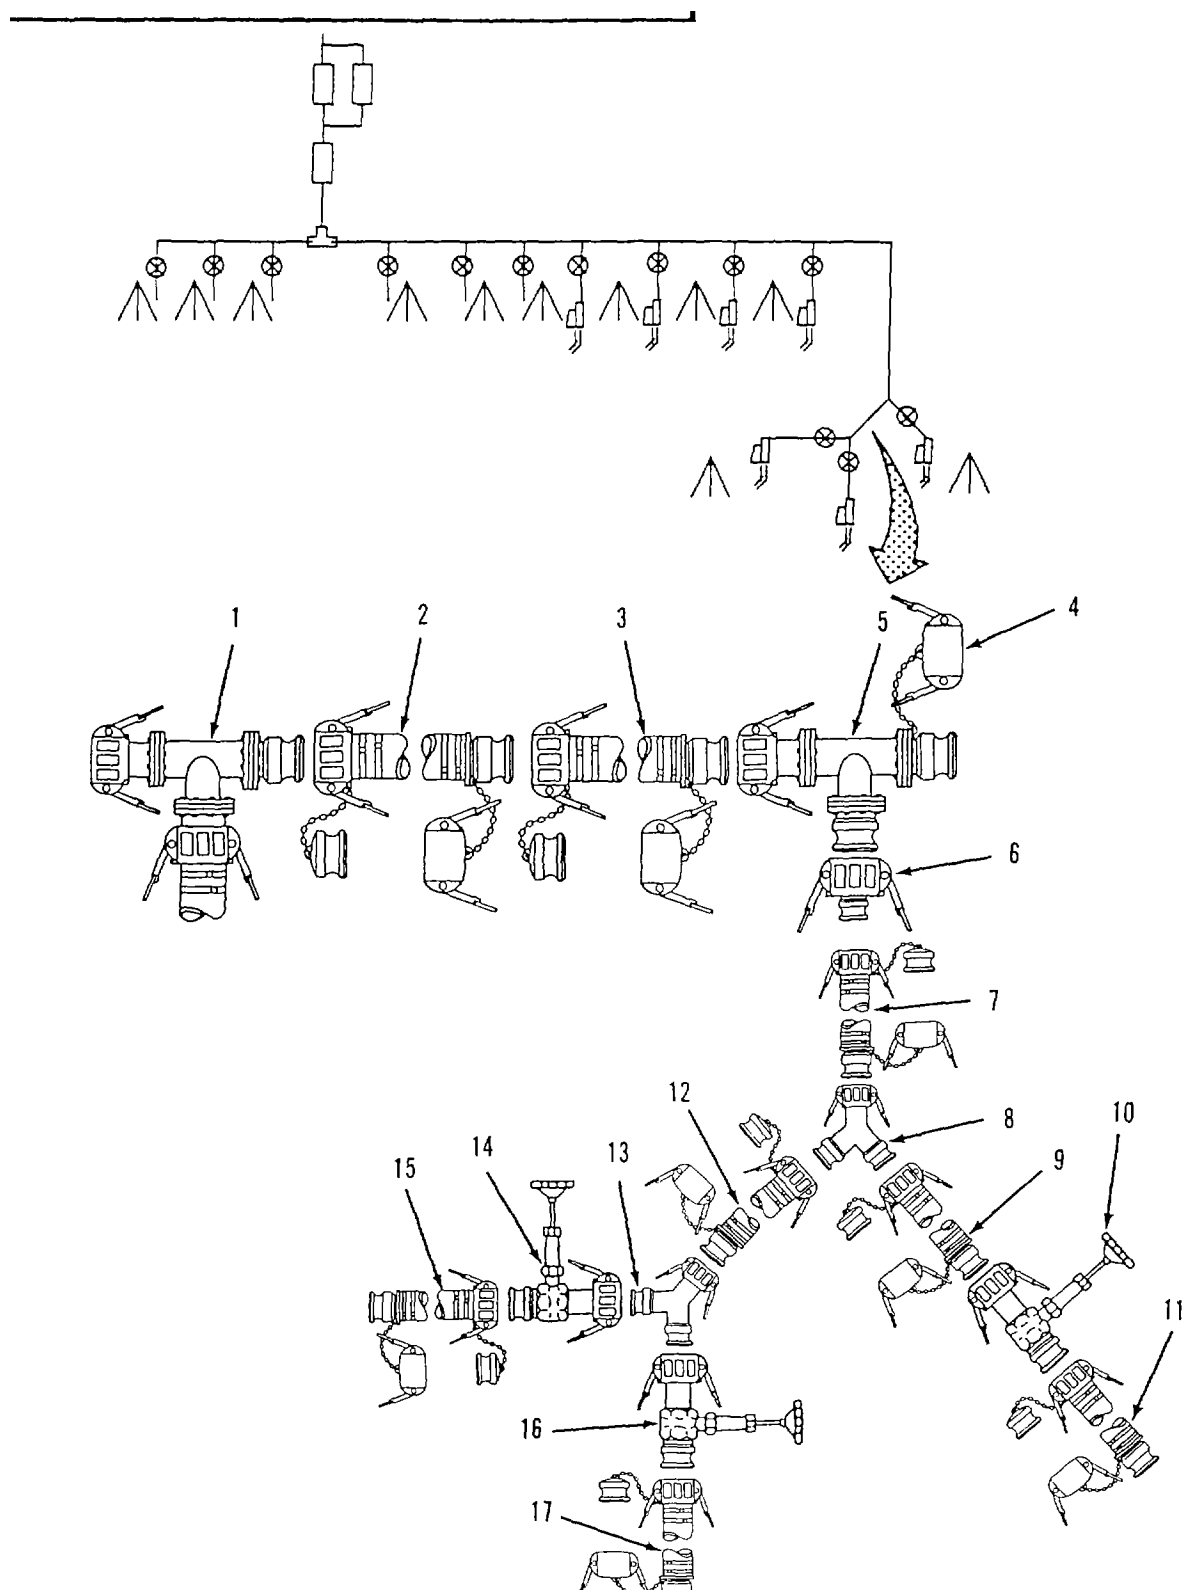

Figure 2-21. Bag Filler Connection Kit Assembly.
- n. Assemble Bag Filter Connection Kit. Refer to figure 2-21.